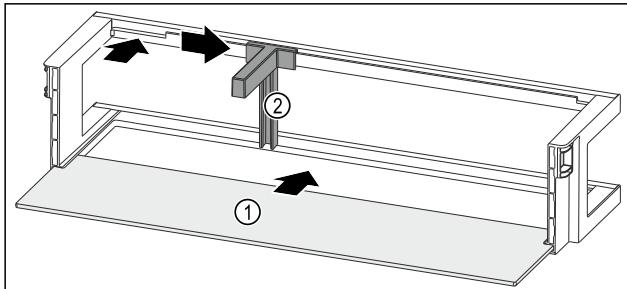

Fig. 120 Door racks with shelf
- ▶ Push the shelf Fig. 120 (1) into the side cutouts.
- ▶ Insert the bottle holder Fig. 120 (2) into the recess.
- ▶ Push the bottle holder Fig. 120 (2) to the side into the desired position.